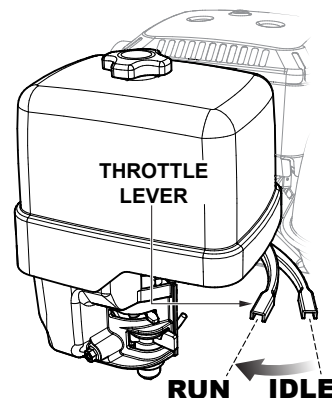

Figure 15. Engine Throttle Lever (Run)
11. To begin pumping, place the **engine throttle lever** (Figure 15) in the **RUN** position.